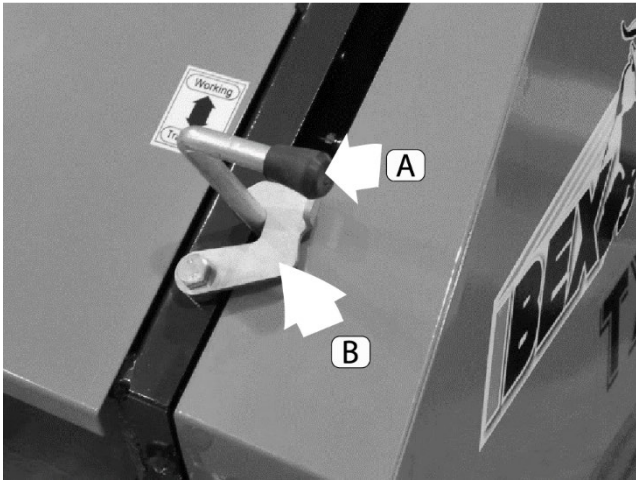

Figure 1 Top left side of baler (pickup lift lever)
The pickup is held in the raised position during transport using the lift lever (Figure 1, A) and is held in place using the lock arm (B).